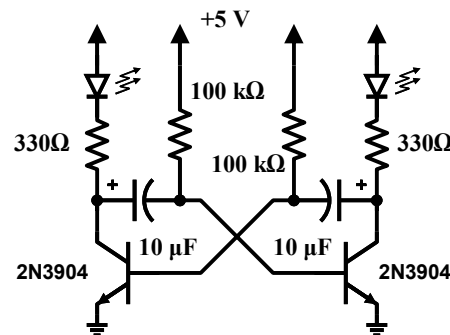

Figure 5-6 – Astable Multivibrator
There is a clever way to make the monostable circuit trigger itself periodically, shown in Figure 5-6: we just need to replace the switch by another RC circuit, much as we did in going from the flip-flop to the monostable. This is called an *astable multivibrator* because neither of the two states are stable; the circuit just periodically switches back and forth between each state.
- Modify your last monostable circuit to build the astable multivibrator in Figure 5-6. Record your observations.